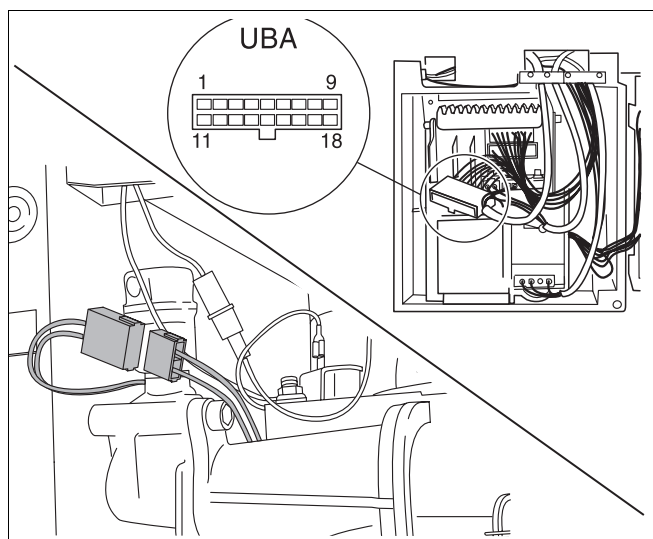

Fig. 69 600 - 11S / 19S / 24S / 24C:
- Use a continuity tester to check the cable between the plug-in connection and the 18-pin plug in the UBA. The test should be carried out on connections 06-18 and 08-18 (fig. 69).